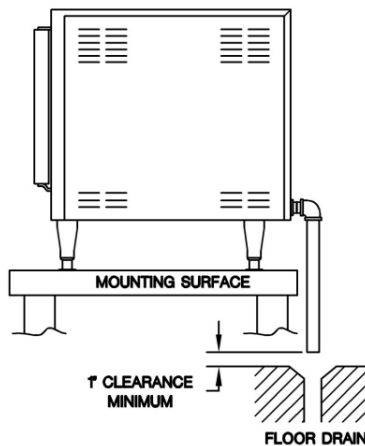

Figure 3-2
11. Connect the drain to the appliance. See Figure 3-2.